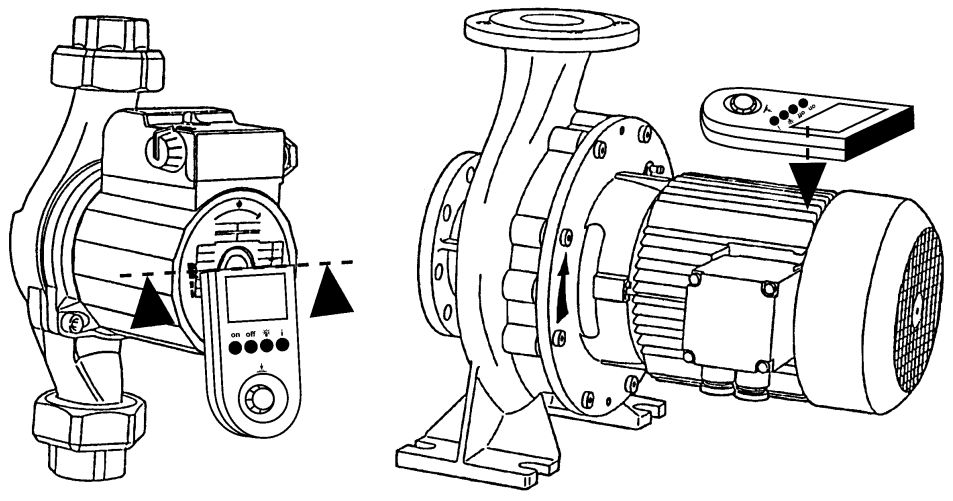

Fig. 2
- **Controlling the direction of rotation:** The following appears on the display: Motor ON/OFF, direction of rotation left/right, rotary frequency of the motor 10 ...100 Hz. The monitor must be placed on the pump housing (Fig. 2) in order to measure this data.